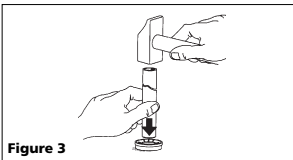

Figure 3
3. Tap the retaining ring onto the axle (Figure 3 & 4).